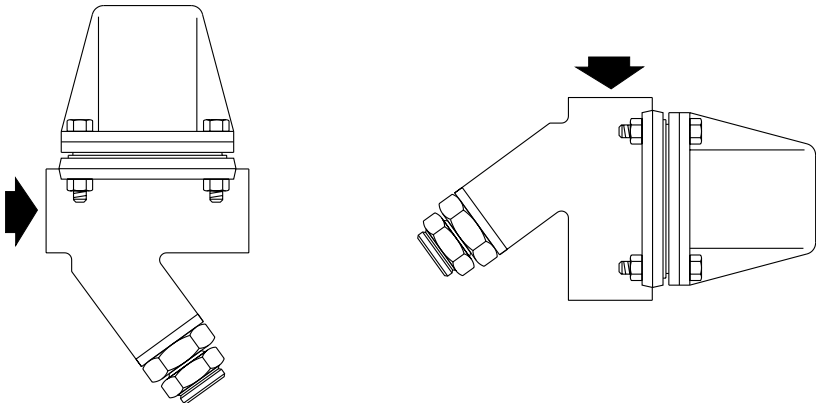

**Fig. 2** Correct installation
**Note:** Install the sensor chamber only as shown in Figure 2.